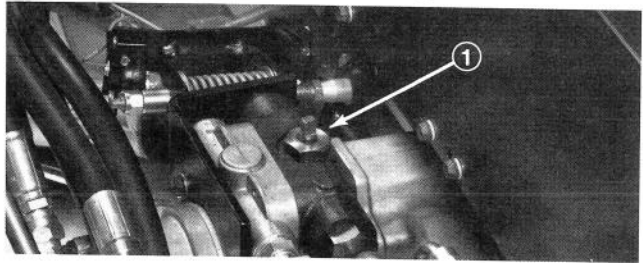

Figure 30
2. Locate the By-Pass Valve on the top of the pump and open the valve by turning it so that wrench flats on valve stem are facing toward the front and rear of the machine (Fig. 30).